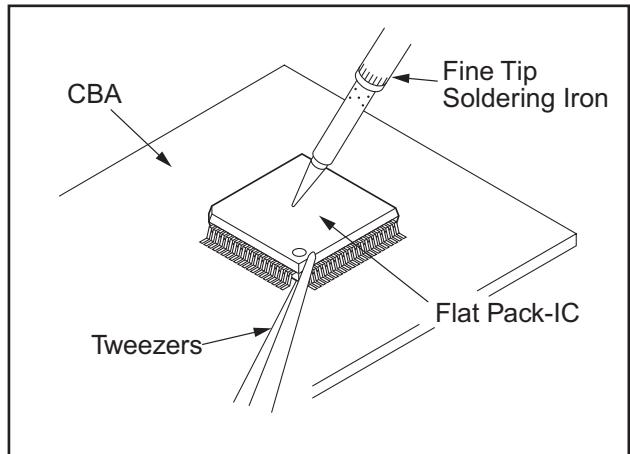

Fig.2-6
- (3) Bottom of the flat pack-IC is fixed with glue to the PWB; when removing entire flat pack-IC, first apply soldering iron to center of the flat pack-IC and heat up. Then remove (glue will be melted). (Fig.2-6)
- (4) Release the flat pack-IC from the PWB using tweezers. (Fig.2-6)
- (4) Bottom of the flat pack-IC is fixed with glue to the PWB; when removing entire flat pack-IC, first apply soldering iron to center of the flat pack-IC and heat up. Then remove (glue will be melted). (Fig.2-6)
- (5) Release the flat pack-IC from the PWB using tweezers. (Fig.2-6)